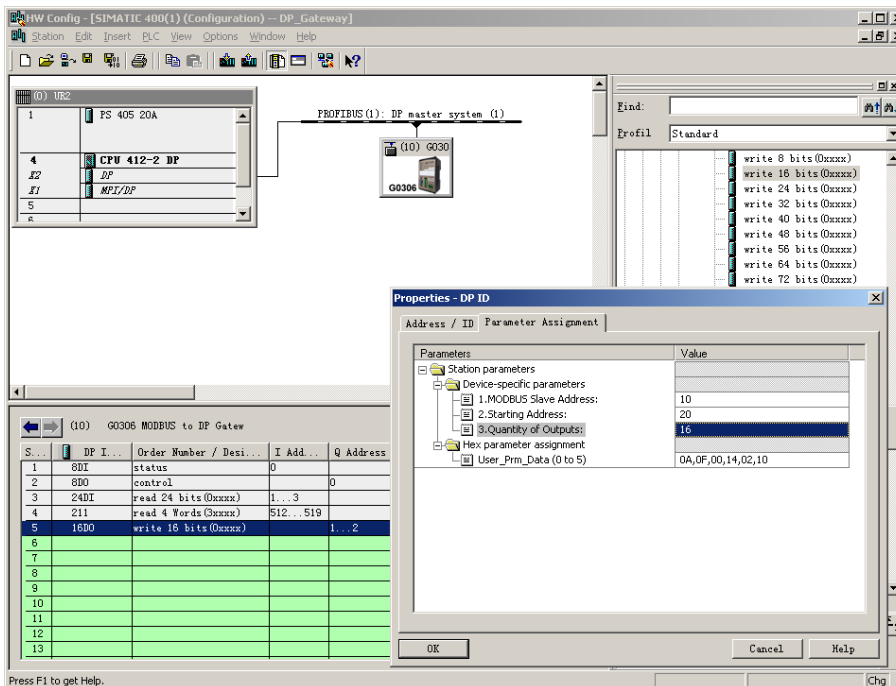

Figure 23 Configure User Parameters of “write 16 bits(0xxxx)” Module
b) Configure user parameters of “write 16 bits(0xxxx)” module, shown in Figure 23:
"1.MODBUS Slave Address:" ⇒Type MODBUS slave address 10, shown in Figure 23.
"3.Quantity of Outputs:" ⇒Type coil number 16 to be written⇒"OK", shown in Figure 23.
As shown in Figure 23, QB1, QB2 is PROFIBUS output address of Modbus module assigned by PROFIBUS master station, total 2 bytes, corresponding to 16 continuous coils of Modbus device written by the Modbus module. 2 bytes (16 bits) value in QB1 and QB2 of PROFIBUS master station is written into 0xxxx data area of Modbus device by the Modbus module. Here starting address is 00020; PROFIBUS QB1, QB2 is written into 00021 ~ 00036 of Modbus device.